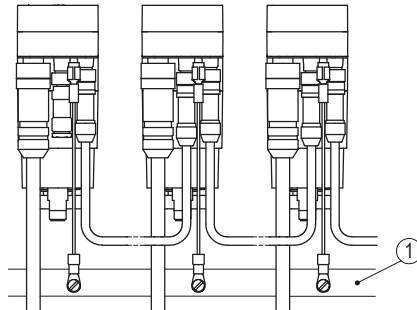

Fig. 9: Ground bar
inadmissible currents on the screen. Apply the PE connection (4) to the protective conductor potential below the connecting plugs (see Fig. 8). Use 6.3 mm flat connectors with short strands 2.5 ... 4 mm2 (not in the scope of delivery). For multiple actuators we recommend connecting the earthing to a ground bar (1) (see Fig. 9).